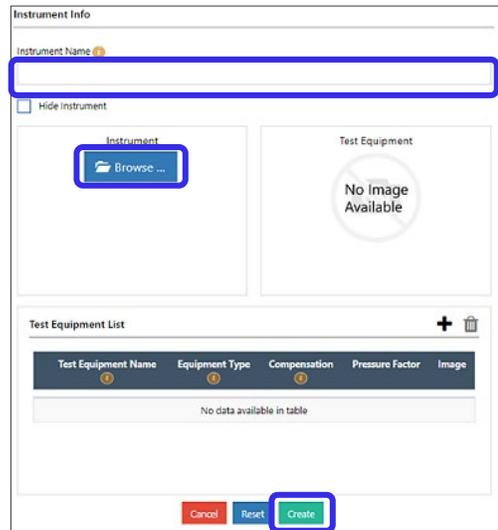

Figure 66: Create new instrument
2. In the Instrument Info section (Figure 66), enter the information for the instrument.